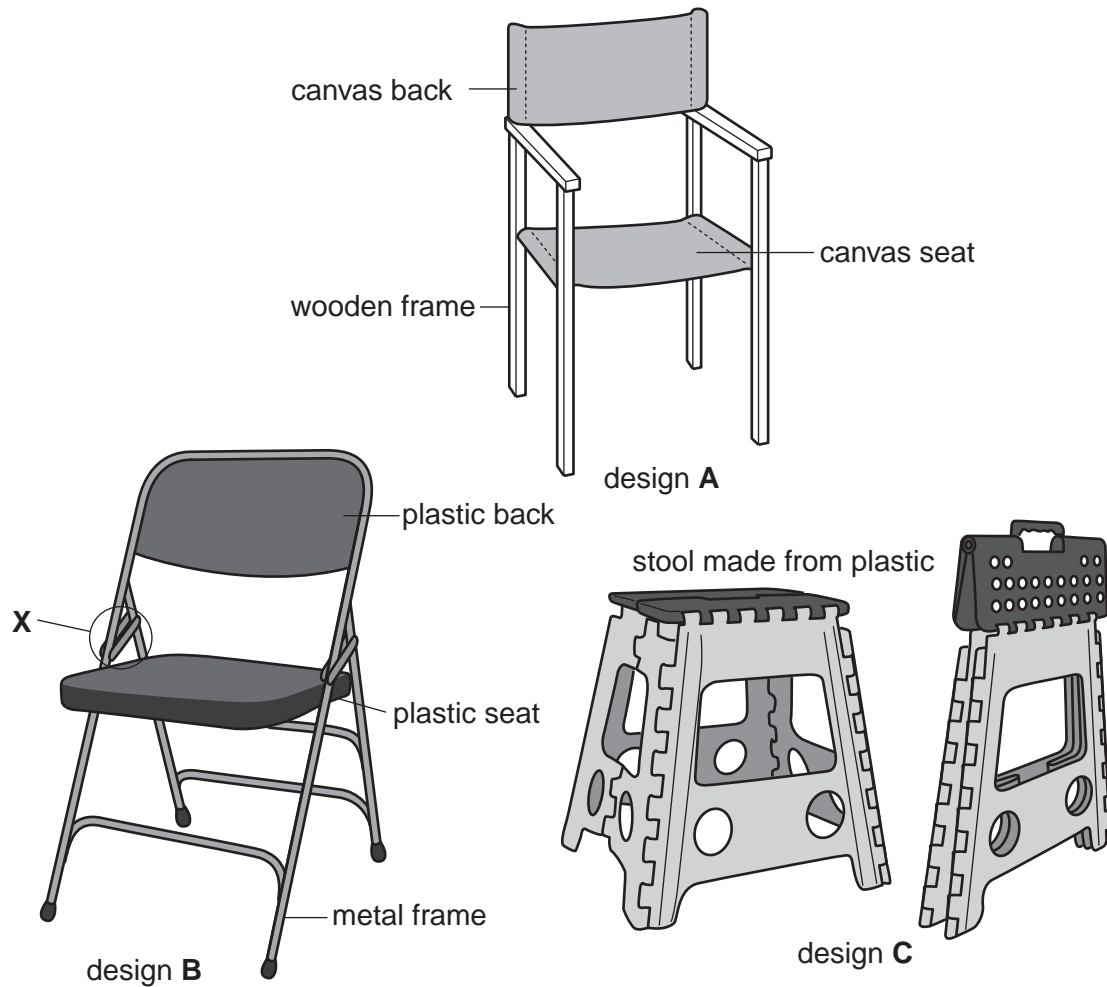

Fig. 6
6 Fig. 6 shows a range of designs for folding chairs and stools.
- (d) Discuss why design A might be considered more 'environmentally friendly' than the other designs shown in Fig. 6.